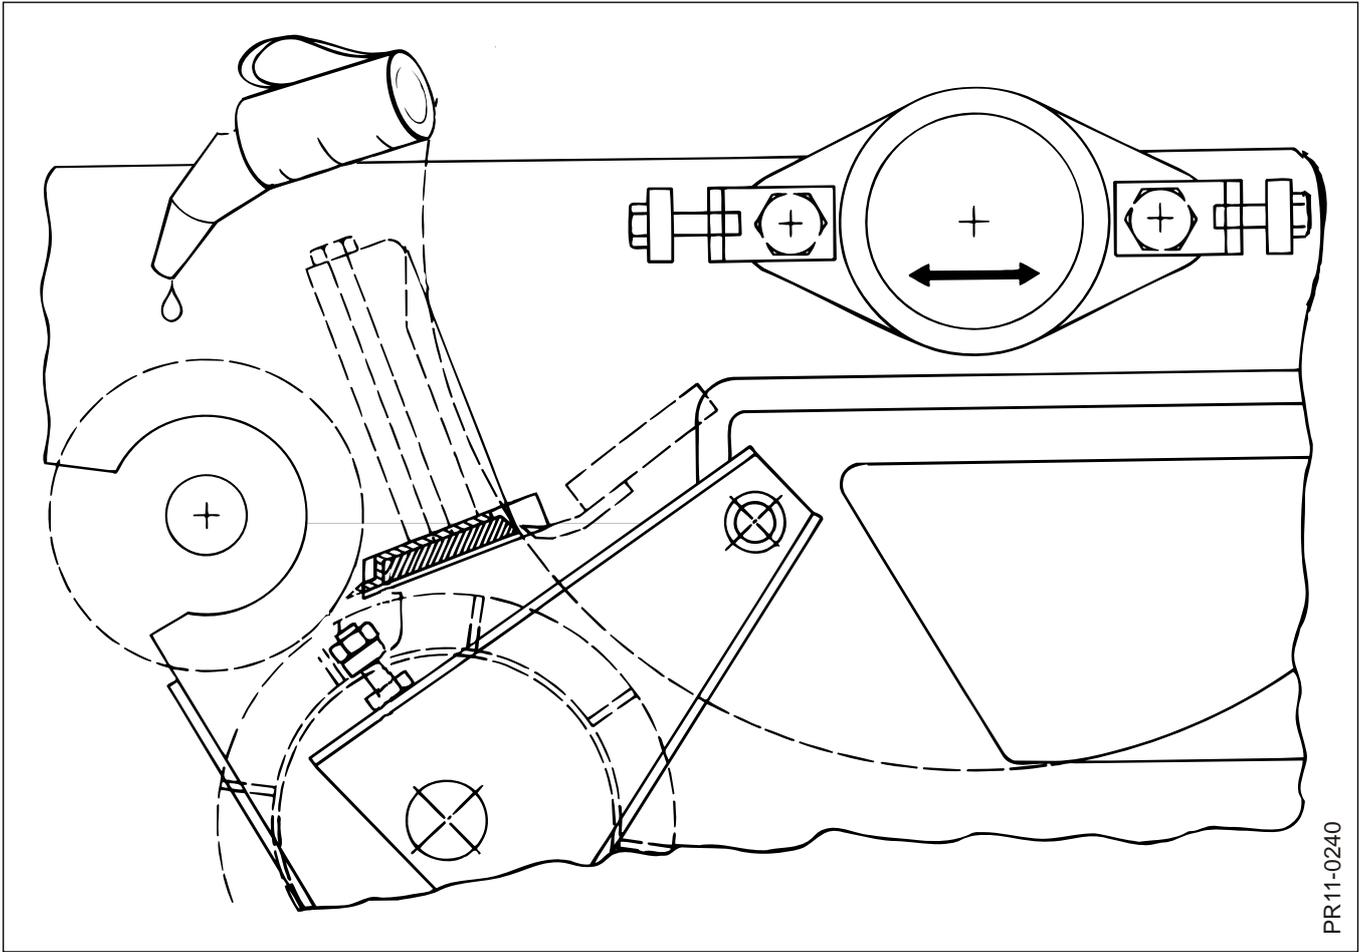

Fig. 6.1
**Fig. 6.1** Especially the upper smooth feed roller should be protected against rust. If the machine is out of work for more than one day, it should be lubricated with oil.